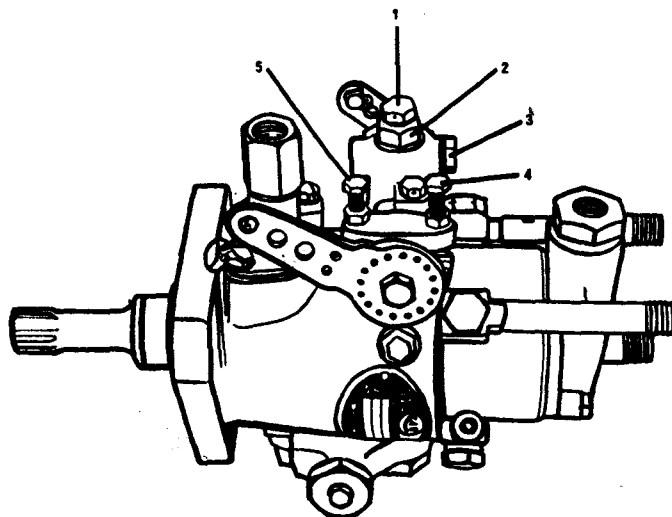

Fig. Q.7.
Maximum Speed Setting (Refer to Fig. Q.7).
Anti-Stall Device (Refer to Figs. Q.7 and Q.8).
On some hydraulically governed fuel pumps a reversible governor is fitted. The bleed screw position (3) has been moved from above the anti-stall device on top of the housing to a position on the side of the housing as shown in fig. Q.7.